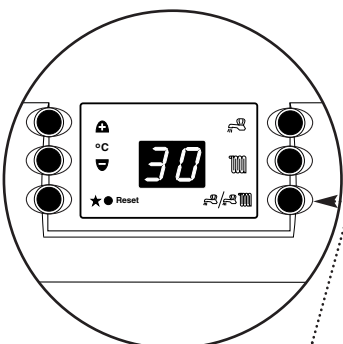
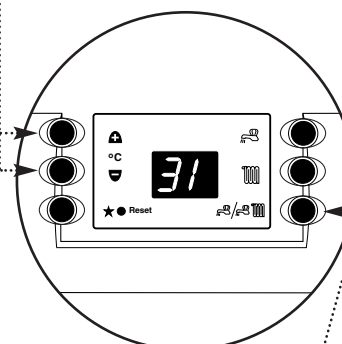

Fig. 42
Fig. 43
4. Press the Summer/Winter Mode Button marked () until the display shows “30” (Fig. 42). The “3” indicates that the installer parameter for system frost protection has been selected. The “0” indicates that the system frost protection is switched off. Press the “+” Temperature Control Button until the display shows “31” (Fig. 43). The “1” indicates that the system frost protection is switched on. 1 minute after the parameter has been set the display will revert to normal operation.
6. Press the Summer/Winter Mode Button marked () until the display shows “31” (Fig. 43). The “3” indicates that the installer parameter for system frost protection has been selected. The “1” indicates that the system frost protection is switched on. Press the “-” Temperature Control Button until the display shows “30” (Fig. 42). The “0” indicates that the system frost protection is switched off. 1 minute after the parameter has been set the display will revert to normal operation.